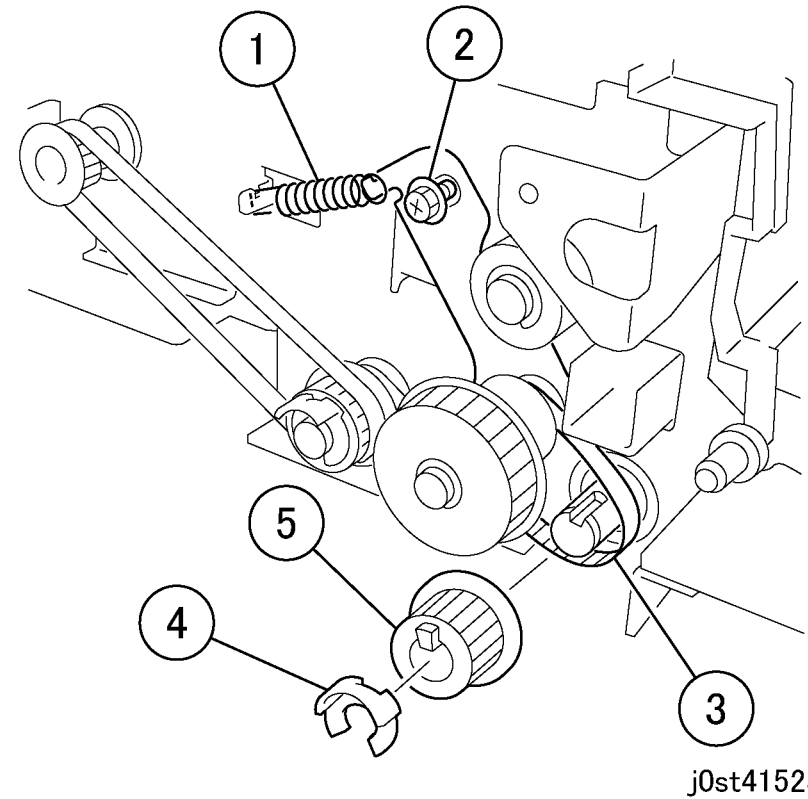

Figure 5 Loosening the belt tension
11. Loosen the belt tension. (Figure 5)